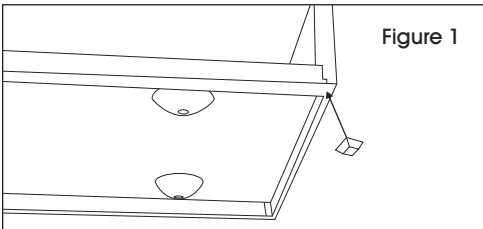

Figure 1
1. To prevent sliding or scratching when mounting an individual rack directly on the floor or on a desk, attach self-adhesive rubber feet to four bottom corners. (See Figure 1)